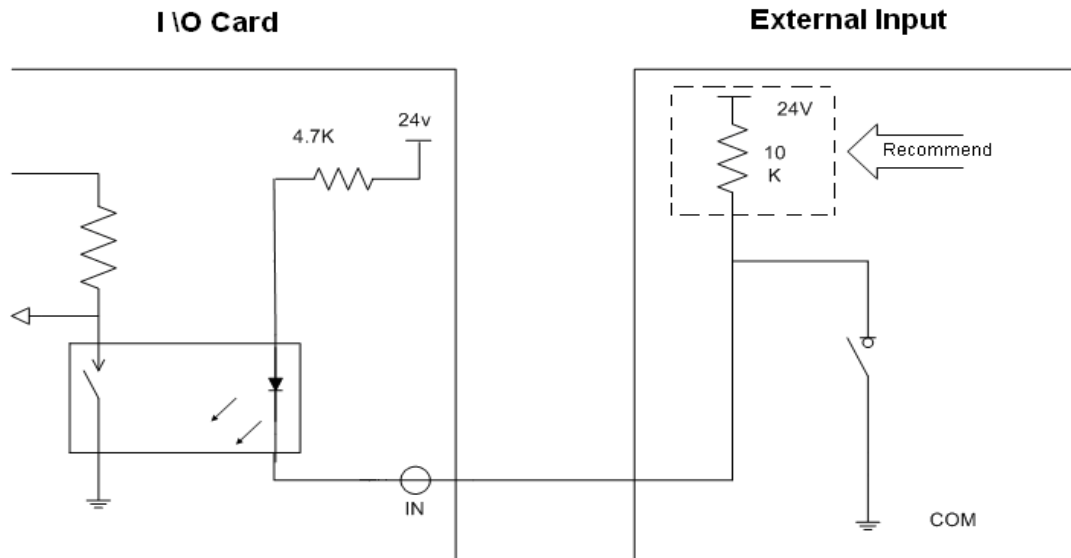

Fig. 4-4 Connection between Switch Value Input Signal and Photoelectric switch (or Proximity Switch)
The switch value input signal can be connected with photoelectric switch or proximity switch of NPN (NO) or NPN (NC) switch. The connection diagram is shown below in Fig. 4-4: